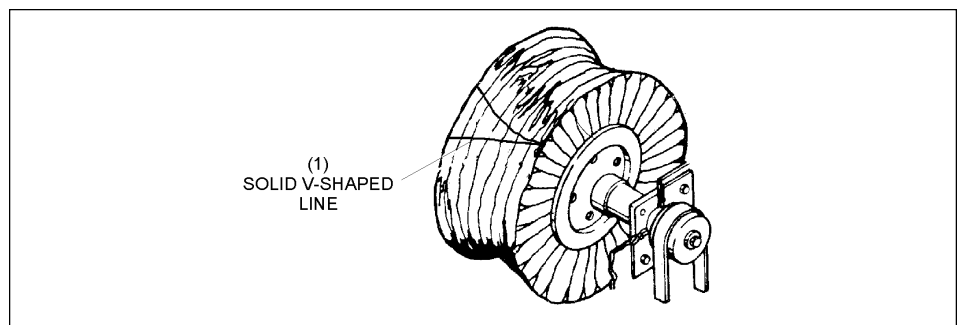

Figure 22. V-Shaped line
15. In the proper sequence, slide the buffing wheel sections, plates, and spacers onto the buffing wheel shaft. Assemble loosely and arrange the pre-marked buffing wheel sections to form a solid “V” shaped line. Refer to *Figure 22*.